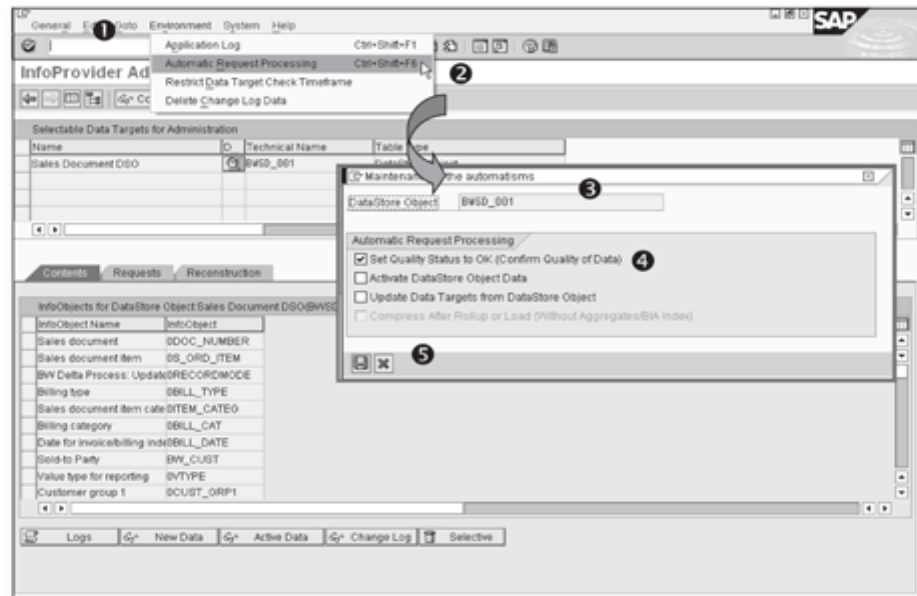

Figure 14.11 Automatic Request Processing Options for a DSO
To configure the system to process requests automatically, use the following menu path in the Administration screen of the DSO: ENVIRONMENT ▾ AUTOMATIC REQUEST PROCESSING (❶ & ❷ of Figure 14.11).